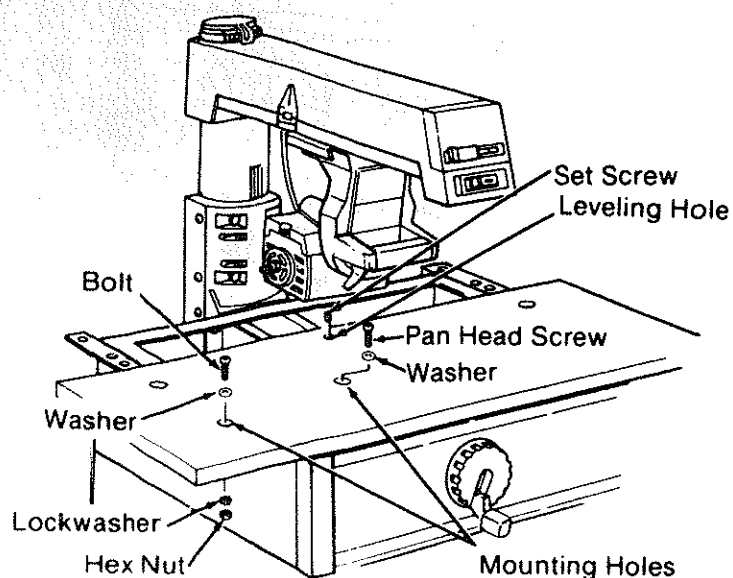

Fig. 45
4. Place the *front table* on the *saw* so that the *mounting holes* in the *table* line up with holes in the *table supports* and center channel of *saw*. (Figure 45)
5. Start the *cup point set screw* through the *leveling hole*. Do not tighten. (Figures 45 & 46)
6. Put a *washer* in each of the *mounting holes*. (Figures 45 & 47)
7. Start a *pan head machine screw* through the center *mounting hole*. Do not tighten. (Figures 45 & 48).
8. Install the *pan head bolts* through the other four *mounting holes*. Put a lockwasher and hex nut on each bolt and tighten using a Phillips screwdriver. (Figures 45 & 49)